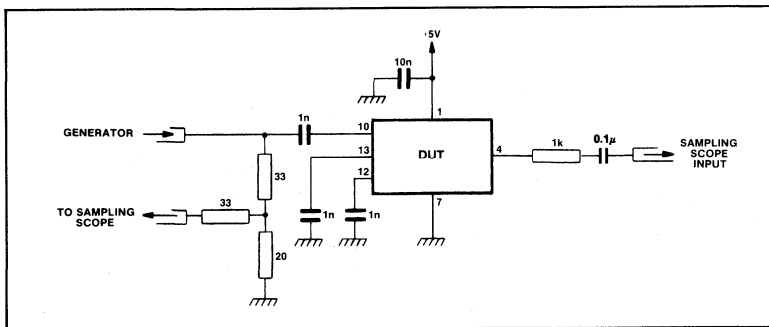

Fig.5 Test circuit
2. The test configuration for dynamic testing is shown in Fig.5.